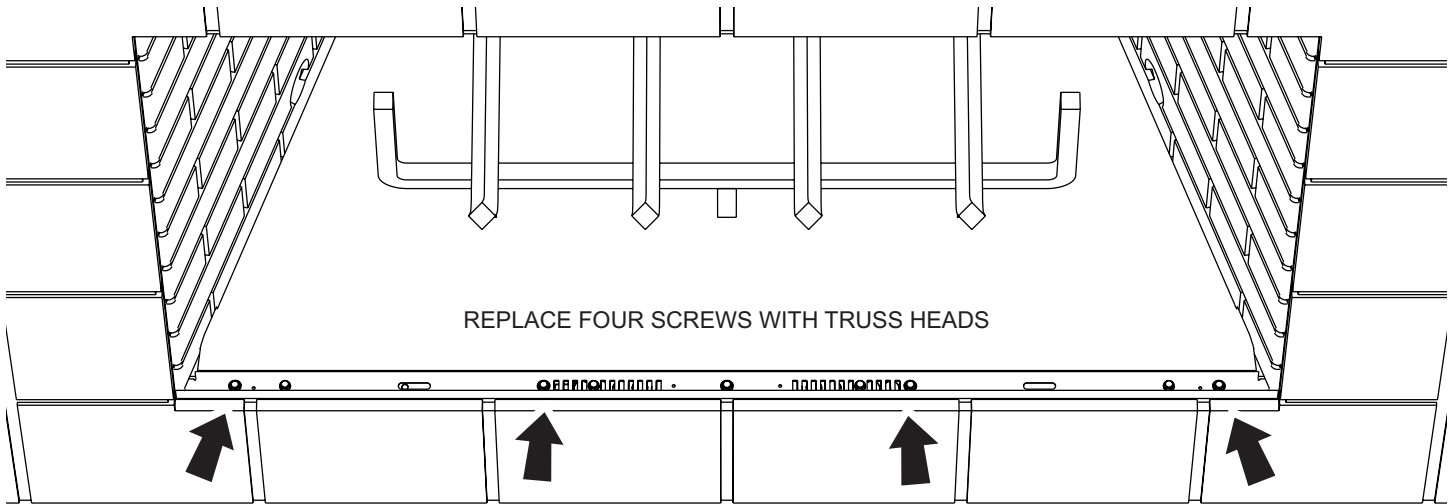

Figure 2
2. Using a 5/16" hex driver and Phillips screwdriver, remove and replace each Hex-Head Screw in **Figure 2** with a #10 Truss-Head Screw from the hardware pack (four total). Replace each screw one at a time. Only use a hand driver to install the Truss-Head Screws to prevent stripping the holes.